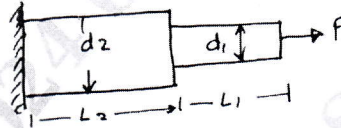

Fig. Q9 (b)
- b. A compound solid aluminium rod is subjected to a tensile force P , Make the assumption that $E = 69 \text{ GPa}$, $d_1 = 16 \text{ mm}$, $L_1 = 600 \text{ mm}$, $d_2 = 25 \text{ mm}$, $L_2 = 900 \text{ mm}$, $\sigma_{up} = 276 \text{ MPa}$. Calculate the largest amount of strain energy that can be stored in the rod without causing any yielding. Refer Fig. Q9 (b).